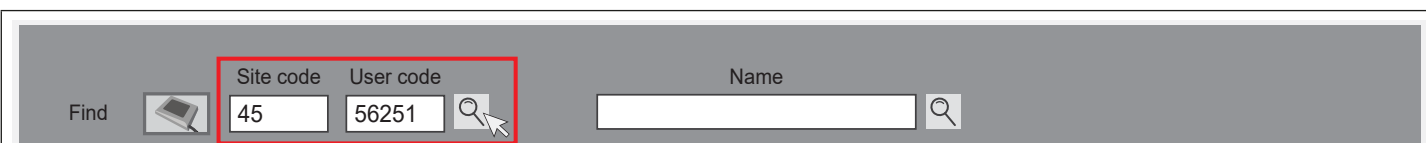

Fig. 64
- The **site code** and **user code** will automatically update with the fob/card information, see **Fig.64**.